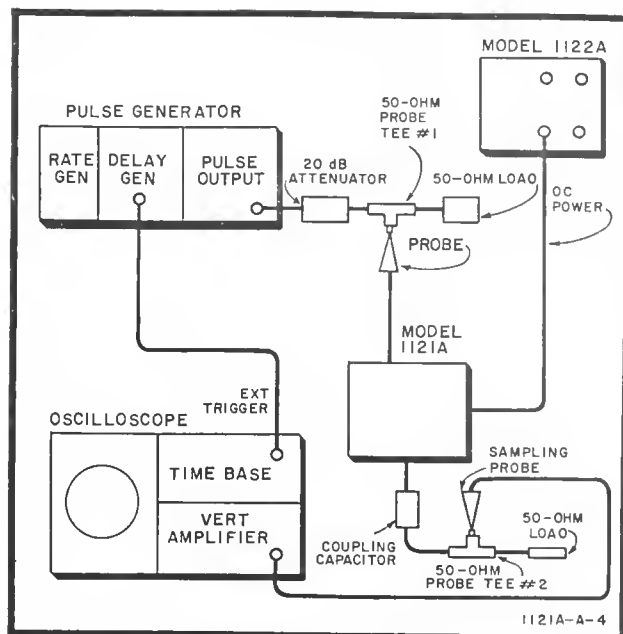

Figure 8. Pulse Performance Test Setup
- a. Connect equipment as shown in Figure 8.